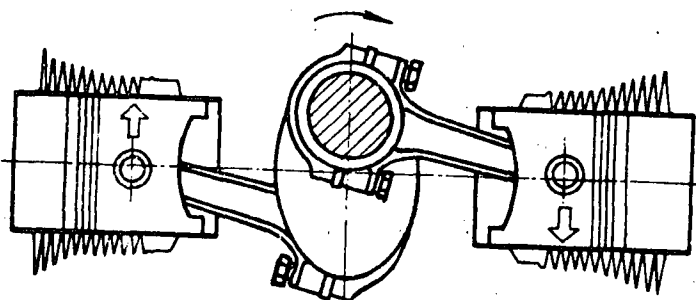

Fig. 8
- *Engines with opposed cylinders.* The cylinders are arranged in the block forming an angle of 180° between them (fig. 8). This enables a better balanced functioning of the engine.